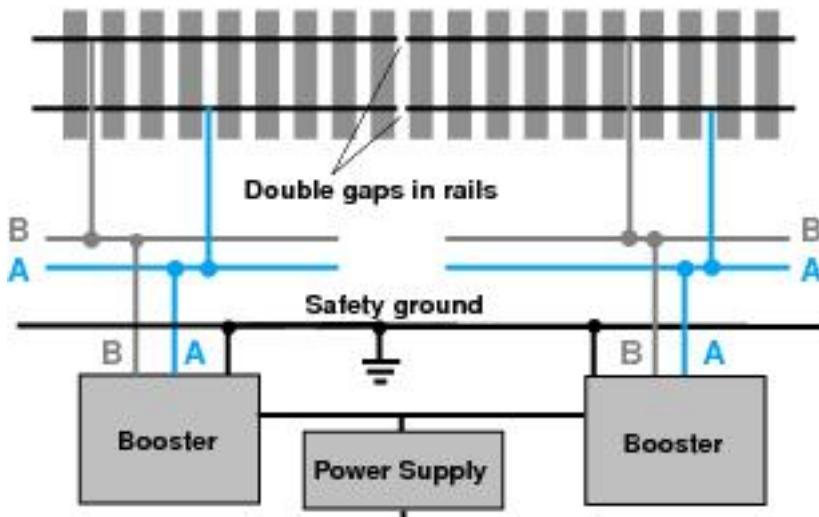

Figure 4-8: Direct home wiring for power districts
**Figure 4-8** shows the wiring for two adjacent power districts. Each of the power districts uses common return wiring, with the power districts double gapped and electrically separated. This wiring method using electrically isolated power districts is called direct home wiring. Direct home wiring is used on the Norcross Southern for a number of reasons.
With direct home wiring, one power supply can drive multiple boosters. In **Figure 4-8** the two boosters share the same power supply. If the total operating current for the layout were 6 amps, each power district could use a 5 amp booster since it would be unlikely for every loco running on the layout
It is important to note that where two power districts adjoin, both rails must be properly double gapped. It is also important that the power feed for the rails on either side of the gaps come from the same terminal, A or B, of each booster as shown in **Figure 4-8**. These power district gaps can be tested with a test light with leads or a coin. If the test light comes on, then the polarity across the gap does not match, so the power bus feeds for one district need to be reversed. Place a coin across the gap and if the boosters detect a short across the gap and shut down then, again, current was flowing and the wiring must be changed. In either case, if no current flows, then the two power districts are correctly wired with respect to each other. Make sure that these rail gaps between power districts are filled with epoxy or a piece of other insulating material up to the rail height as shown in **Figure 4-9**. This prevents the rails from expanding and accidentally causing a short circuit or connecting two power districts together.